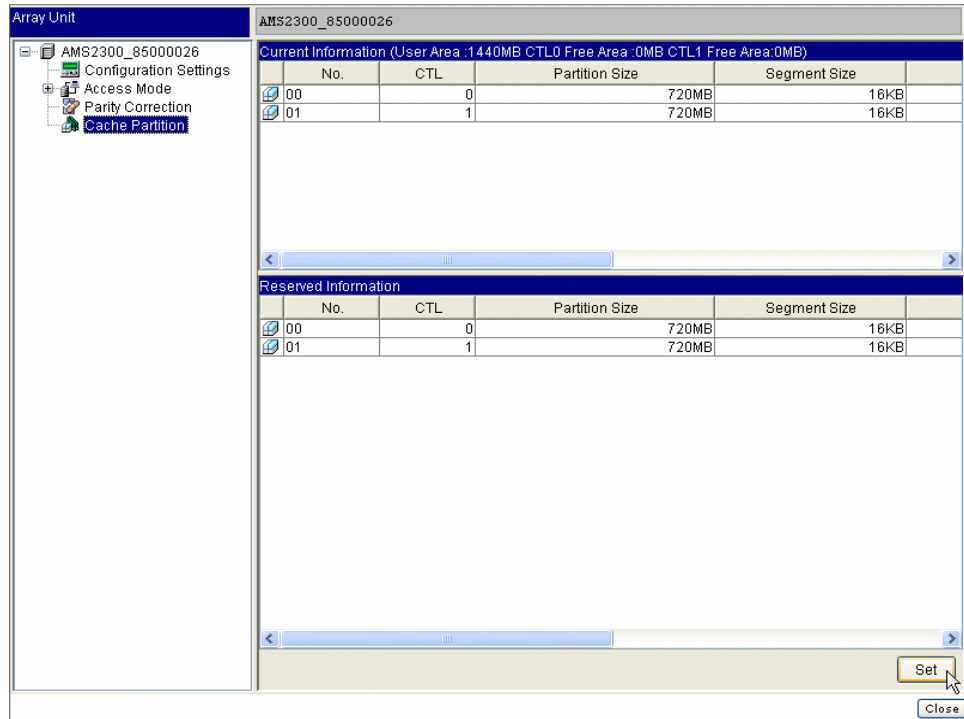

Figure 5-1: Cache Partition
5. Click **Cache Partition**. Figure 5-1 appears.
- Click **Cache Partition**. Figure 5-1 on page 5-17 appears.
5. Click **Cache Partition**. Figure 5-1 on page 5-17 appears.